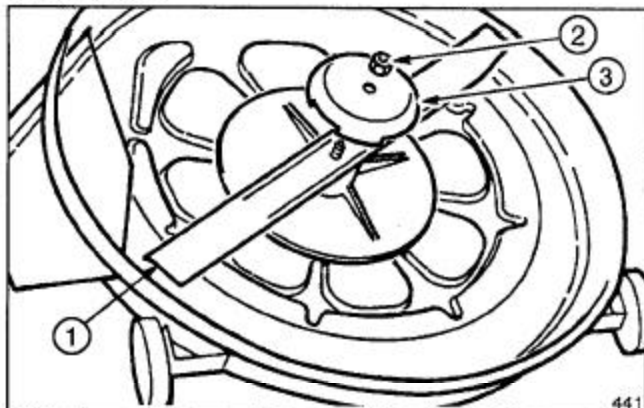
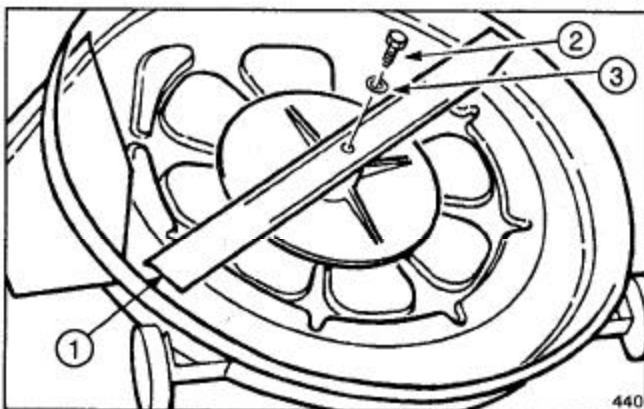

Figure 1
Figure 2
1. Use a rag or thickly padded glove to hold old blade. Depending on your unit's blade assembly, remove lock nut, anti-scalp cup, and blade (Fig. 1) or blade bolt, washer, and blade (Fig. 2). Save the old blade for future use if Recycler® Kit is removed.